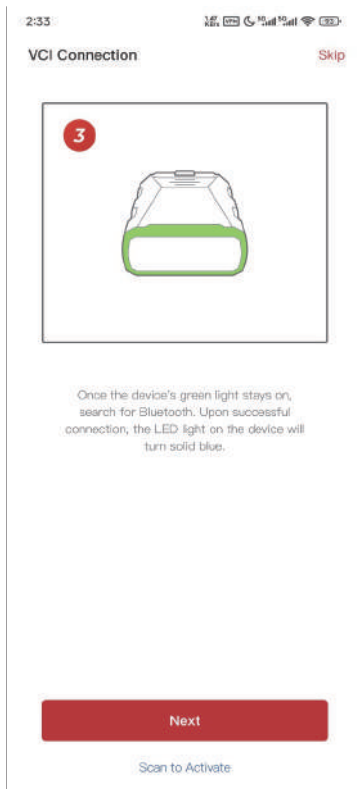

Figure 3-6
- ③ Make sure the LED light on the device is solid green and search for Bluetooth. Once connected, the LED light on the device will turn solid blue (See Figure 3-6).